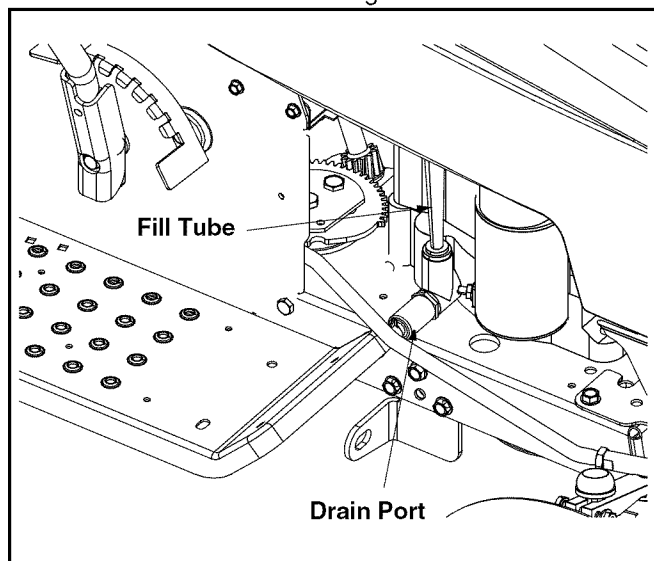

Figure 23
- Unscrew the oil fill cap and remove the dipstick from the oil fill tube. See Figure 23.